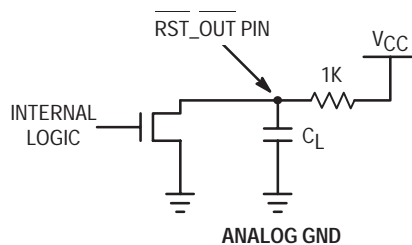

Figure 3. RST_OUT Test Circuit
5. The $\overline{RST_OUT}$ pin is an open drain N-Channel output. Therefore an external pull-up resistor must be provide to pull up the $\overline{RST_OUT}$ pin when it goes into the high impedance state (after the MC88LV926 is phase-locked to the reference input with $\overline{RST_IN}$ held high or 1024 'Q' cycles after the $\overline{RST_IN}$ pin goes high when the part is locked). In the t_{PLZ} and t_{PZL} specifications, a 1K Ω resistor is used as a pull-up as shown in Figure 3.